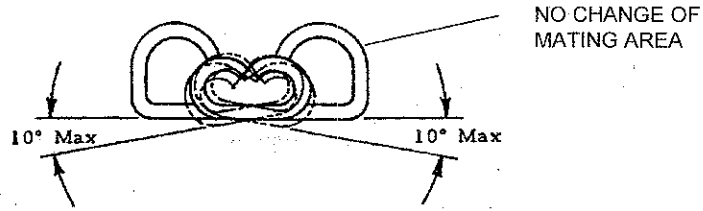

Figure 5
**B. Twist or Roll:** Twist or Roll of the crimped contact shall not exceed the limits specified in Figure 5.